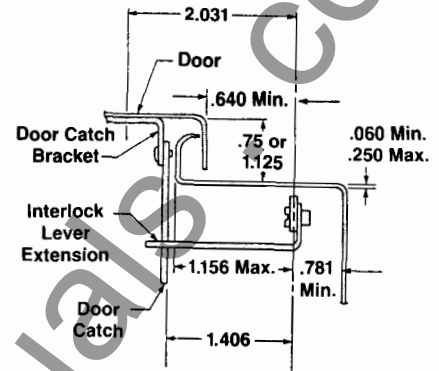

Fig. 2
**Operating Note:** With the enclosure door open, the operating handle cannot be moved from the "OFF" to "ON" position without deliberately defeating the interlock mechanism. In the "OFF" position, the interlock can be defeated by pushing the interlock lever extension (10) downward while moving the handle to the "ON" position (see Fig. 2). With the enclosure door open and the handle in the "ON" position, the interlock can be defeated by turning the defeater screw (11) on the operating handle counter-clockwise. When the enclosure door is closed, the door latch mechanism now automatically defeats the interlock.
- Weld the door catch bracket (12) to the enclosure frame. See Figures 2 & 4. NOTE: Holes may be drilled in the door catch bracket using the projection. User must provide the mounting holes in the enclosure frame.